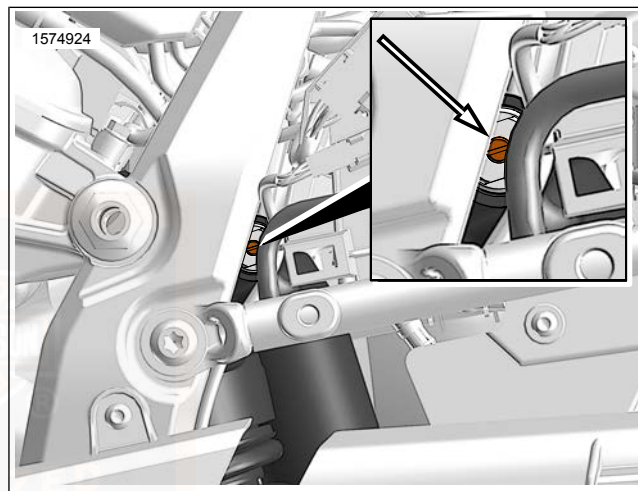

Figure 20. Compression Adjuster
- See Figure 20. Use a flat blade screwdriver to turn compression adjuster clockwise in the H (hard) direction until it stops. This is the maximum compression damping setting.